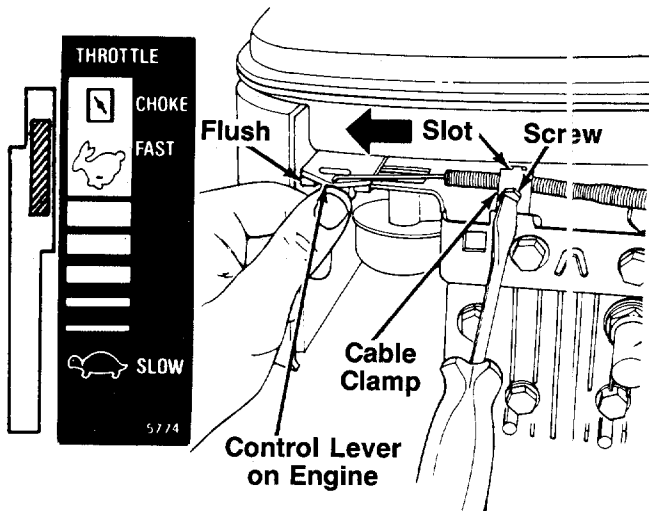

FIGURE 5.
1. Push the throttle control lever on the handle all the way forward to **CHOKE**, then back it off **two "clicks"** (approximately 5/16"). See figure 5.
2. The throttle control cable is attached to the upper handle. Route the throttle control cable under the lower handle and inside the handle mounting bracket. Hook the "Z" end of the throttle control cable into the hole in the control lever on the engine. See figure 5.
3. Using a 5/16" wrench or nutdriver, remove the screw on the cable clamp shown in figure 5. Slip the control cable under the clamp. Replace the screw (cable should be above the screw), but do not tighten (cable must still move freely beneath the clamp). Make certain the tab on the cable clamp is seated into the slot on the engine. See figure 5.
4. Push the control lever on the engine as far toward the **outside** of the engine as it will go. The edge of the control lever should be flush with the bracket on the engine. See figure 5. Hold the control lever in this position as you tighten the screw on the cable clamp to secure the throttle cable.
The throttle control wire assembly can be adjusted if necessary. Loosen the screw on the cable clamp shown in figure 5. Adjust as instructed in steps 1 and 4 of "Attaching the Throttle Control Cable" in Assembly Instructions.